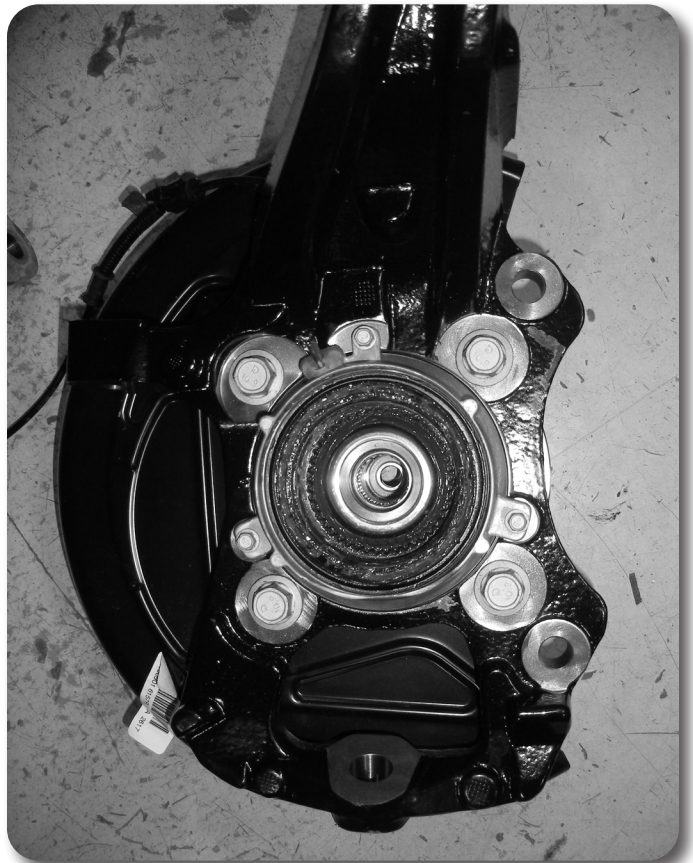

Figure 22A
44. Remove the three 6mm bolts mounting the vacuum hub assembly to the inside of the OE knuckle **Figure 22A**. Transfer the vacuum assembly over to the new knuckle. Make sure the vacuum port is pointing towards the top. Attach with the OE bolts, tighten bolts securely (106 in-lbs).